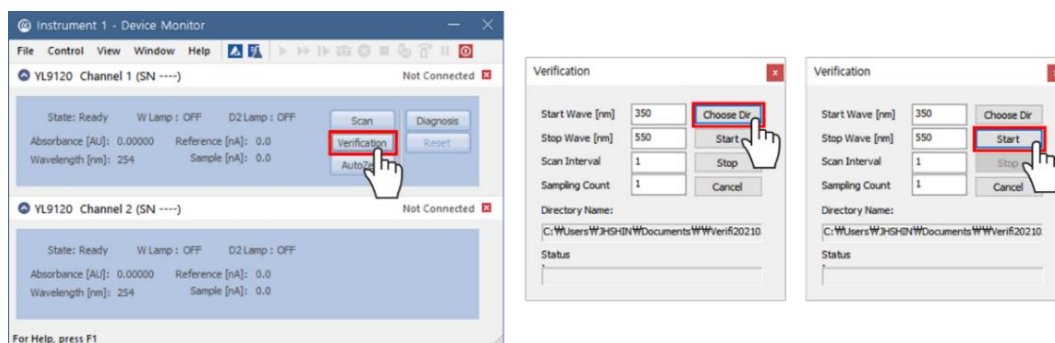

Figure 21. How to run the verification of YL9120 UVD from 350 to 550 nm.
11. Go to "Device Monitor" and click on the [Verification]. Then click on the [Choose Dir] button to select the directory and input the text file name (see Figure 21).